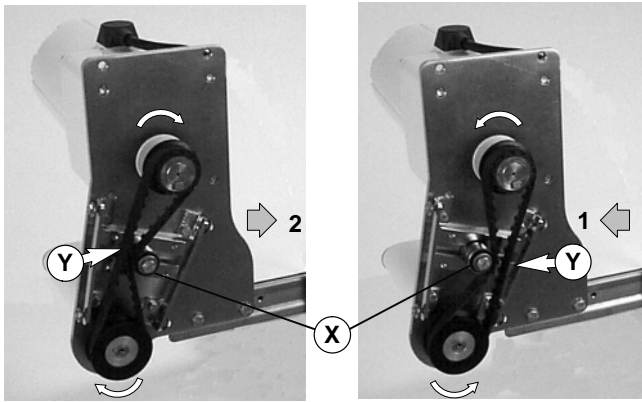

Figure 7
7. Depending on conveyor belt travel (direction 1 or 2), locate timing belt tensioner (X of Figure 7) as shown. Tension timing belt to obtain 3 mm deflection for 456 grams of force at timing belt mid-point (Y). Tighten tensioner screw to 10.4 Nm.